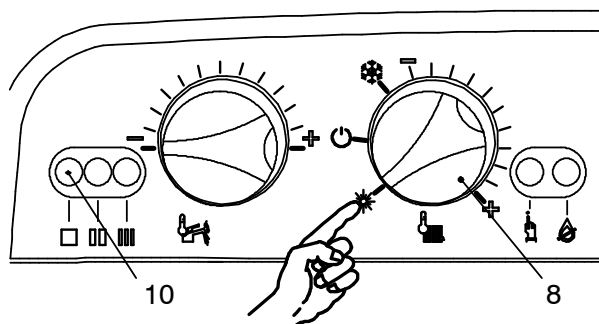

Fig. 2.6
- 4 If d.h.w. supply only is required (combi), position the function selector 8 as in Fig. 2.6. The appliance operation light 10 will flash every 2 seconds (operating boiler).